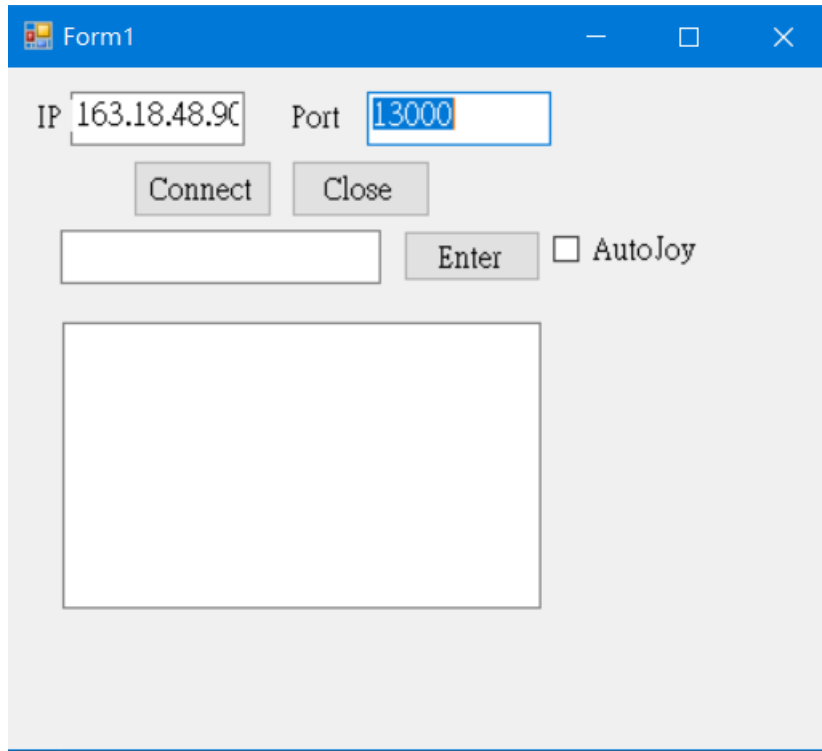

Fig. B3 TCP/IP interface.
- Fig. B3 is the application program to connect the robot arm via internet. After assigning proper IP address and Port number, and select AutoJoy, you will be able to connect the robot arm via simulation and exact joystick. Note that after participants register for Tele-OP robot arm competition, we will give everyone a different Port number.